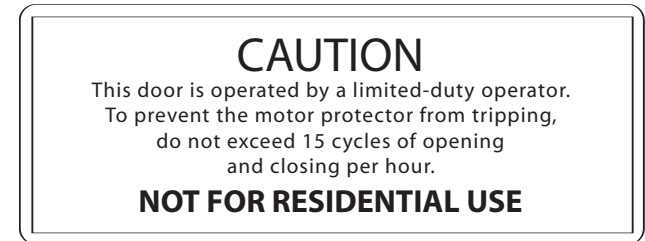

Figure 4B
- Attach the Caution label adjacent to the Wall Control. **Fig. 4B.**